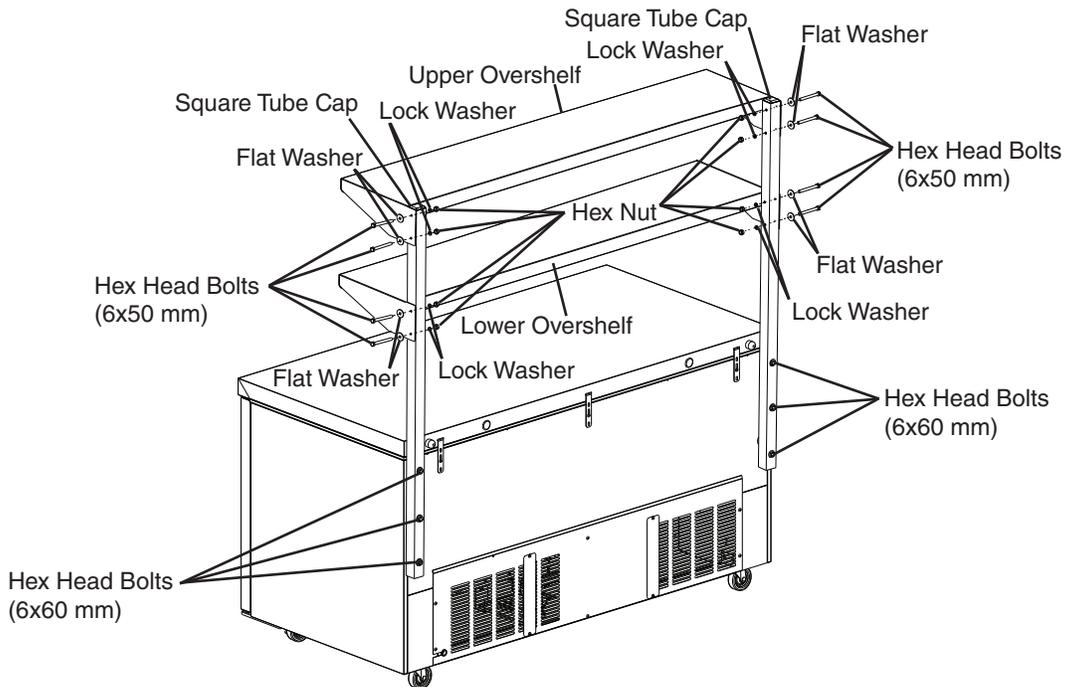

Fig. 2
- 3) **WARNING! Tip hazard. Shelves must face forward.** With the help of an assistant, place a single overshelf in position onto the square tube. Using the hex head bolts (1a), flat washers (1d), hex nuts (1c), and lock washers (1b) provided, secure and tighten the overshelf to the outside of the square tube. See Fig. 2. For double shelf kits, repeat step 3 to install the second overshelf.